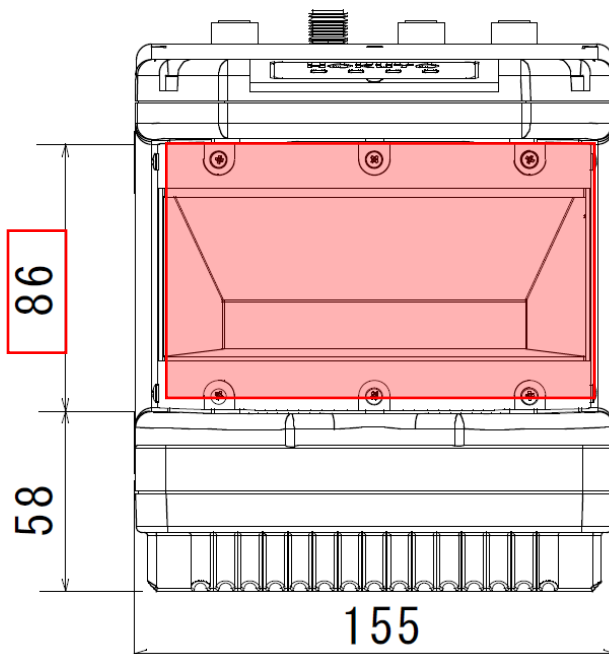

Figure 4-2 Cautions during installation
- Mounting plate is used as a frame ground (FG). Mount the sensor on a stable structure.
- When attaching a cover, etc. to the UGM, you must not cover the red frame as shown in figure 4-2. False detection may occur.